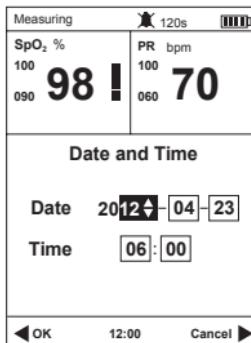

Fig.3.2
- 2) Press the Navigation button to select "Date and Time" item, and then press the OK button to enter the time setup screen, refer to Fig.3.2.